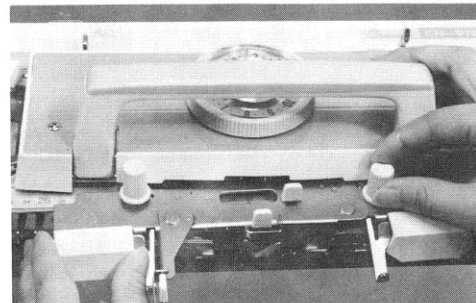

Fig.88
- a) To use the intarsia feeders, first remove both main feed fingers from the feeder plate. To do this, loosen the feeder plate securing nuts and remove the plate from the carriage. (Fig.88)